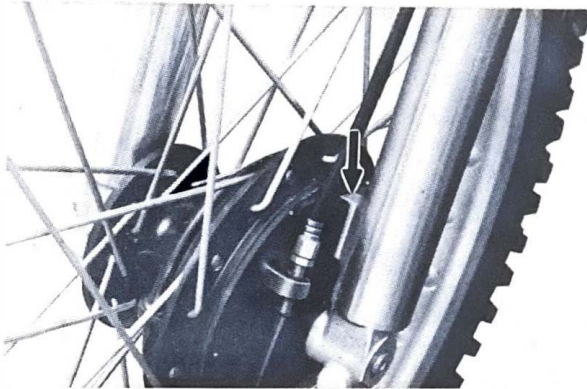

Fig. 16
- (1) Insert the front wheel between the front fork legs so that the stopper (projection) on the front fork end is correctly in the slot in the brake shoe plate. (Fig. 16)
- (2) Insert the wheel shaft.